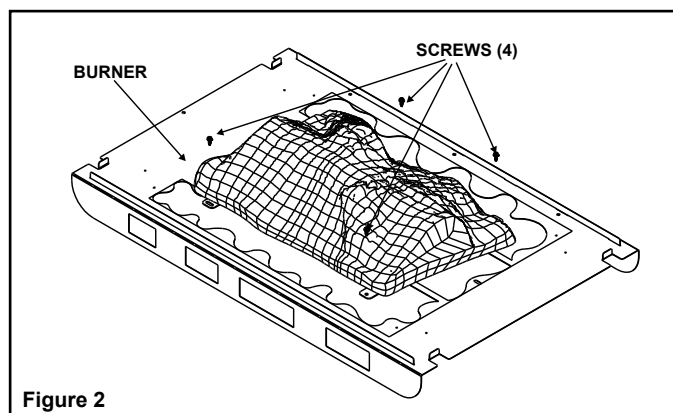

Figure 2
6. Remove the burner from the fireplace by removing the four screws as shown in Figure 2. Lift the burner straight up and out. Replace the burner orifice with the #50DMS orifice provided.